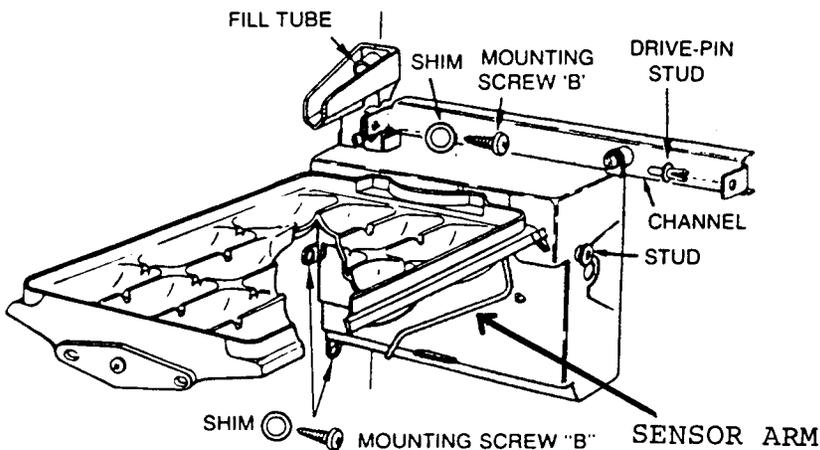

Figure 5 Ice maker mounting
- Move the ice maker into position (see figure 5) while guiding the fill spout into the fill tube. Cut tube if it protrudes more than 1 inch into the spout. NOTE: when positioning the mechanism, slide your left hand between the ice maker and the freezer wall to push the wire harness toward the centre of the ice maker back.
- Mount the ice maker to the side wall fasteners with 3 type 'B' screws (see figure 5). NOTE: starting these screws will require extra pressure to pierce the sealing web over the screw hole in the fasteners.
- Insert stud B as shown on figure 5.
- Turn the ice maker on by pulling the sensor arm toward you a fraction of an inch and allowing it to drop into the ON position (figure 5 shows arm in the ON position).
- Hook the rear of the ice maker enclosure on stud B on the ice maker side (see figure 5).